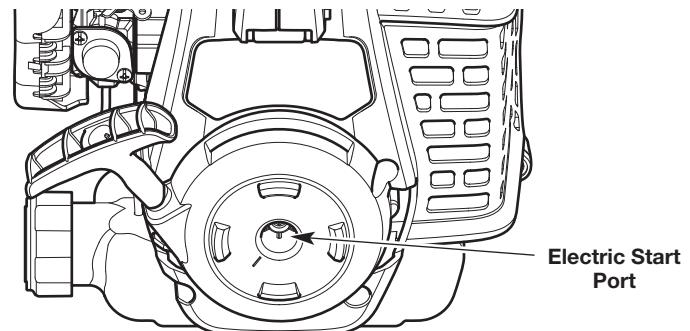

Fig. 9
5. Insert the electric start accessory into the electric start port (Fig. 9).